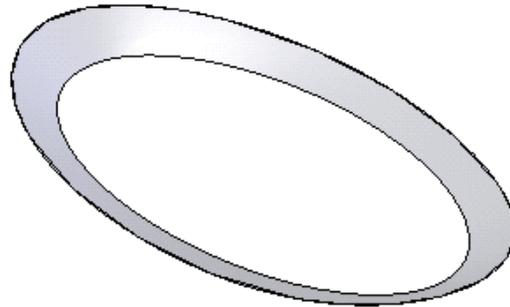

*Figure 15-134 Resultant projected curve*
4. Choose **Insert > Curve > Projected** from the menu bar and project the newly created sketch on the base surface. The model, after projecting the surface, is displayed in Figure 15-134.